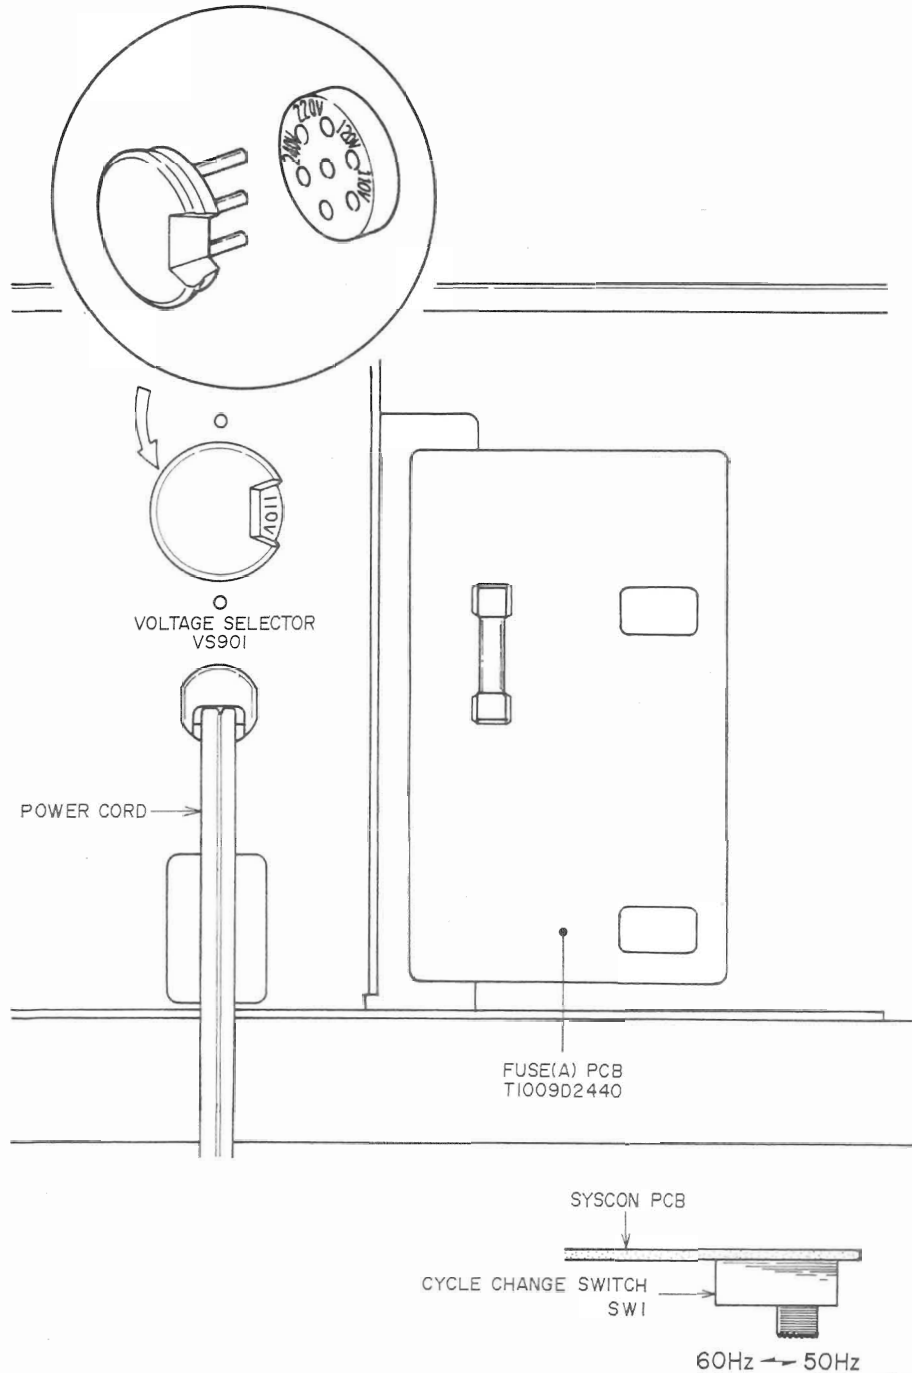

Fig. 5-1 Voltage Conversion (U/T Model) and Cycle Conversion (U/T, JPN Model)
1. VOLTAGE CONVERSION (Refer to Fig. 5-1)
2. CYCLE CONVERSION (Refer to Fig. 5-1)